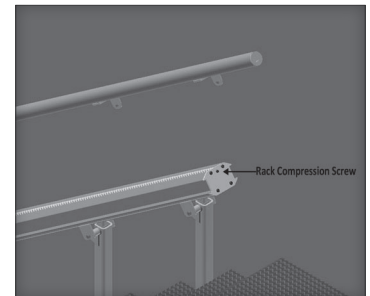

Figure 9-3
**18. Install the rack compression screw** into the end plate to pre-load the gear rack. Install the Hand Rail end plates into each end of the Hand Rail. [Figure 9-3]